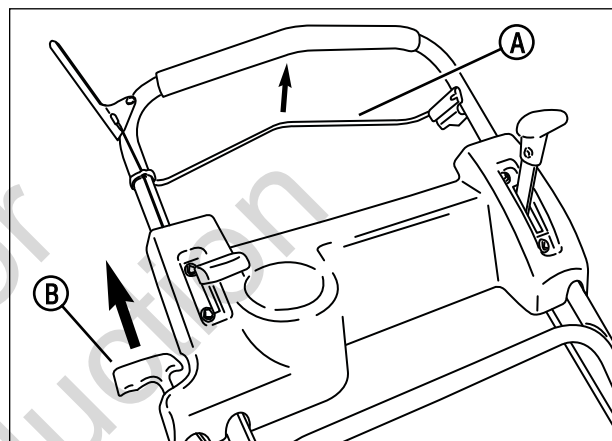

Figure 3: Starting the mower
1. Pull the blade control (**A, Figure 3**) against the handle.